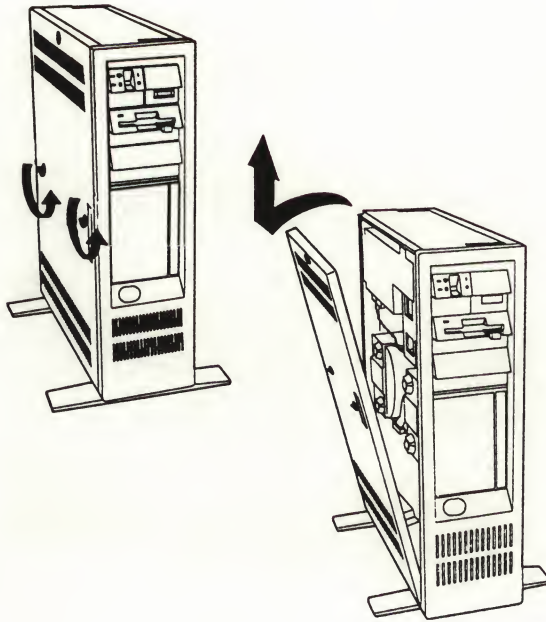

Figure 3-20 Loosening the Model 60 Cover Mounting Screws
14. Loosen the two cover mounting screws with a coin, as shown in Figure 3-20.